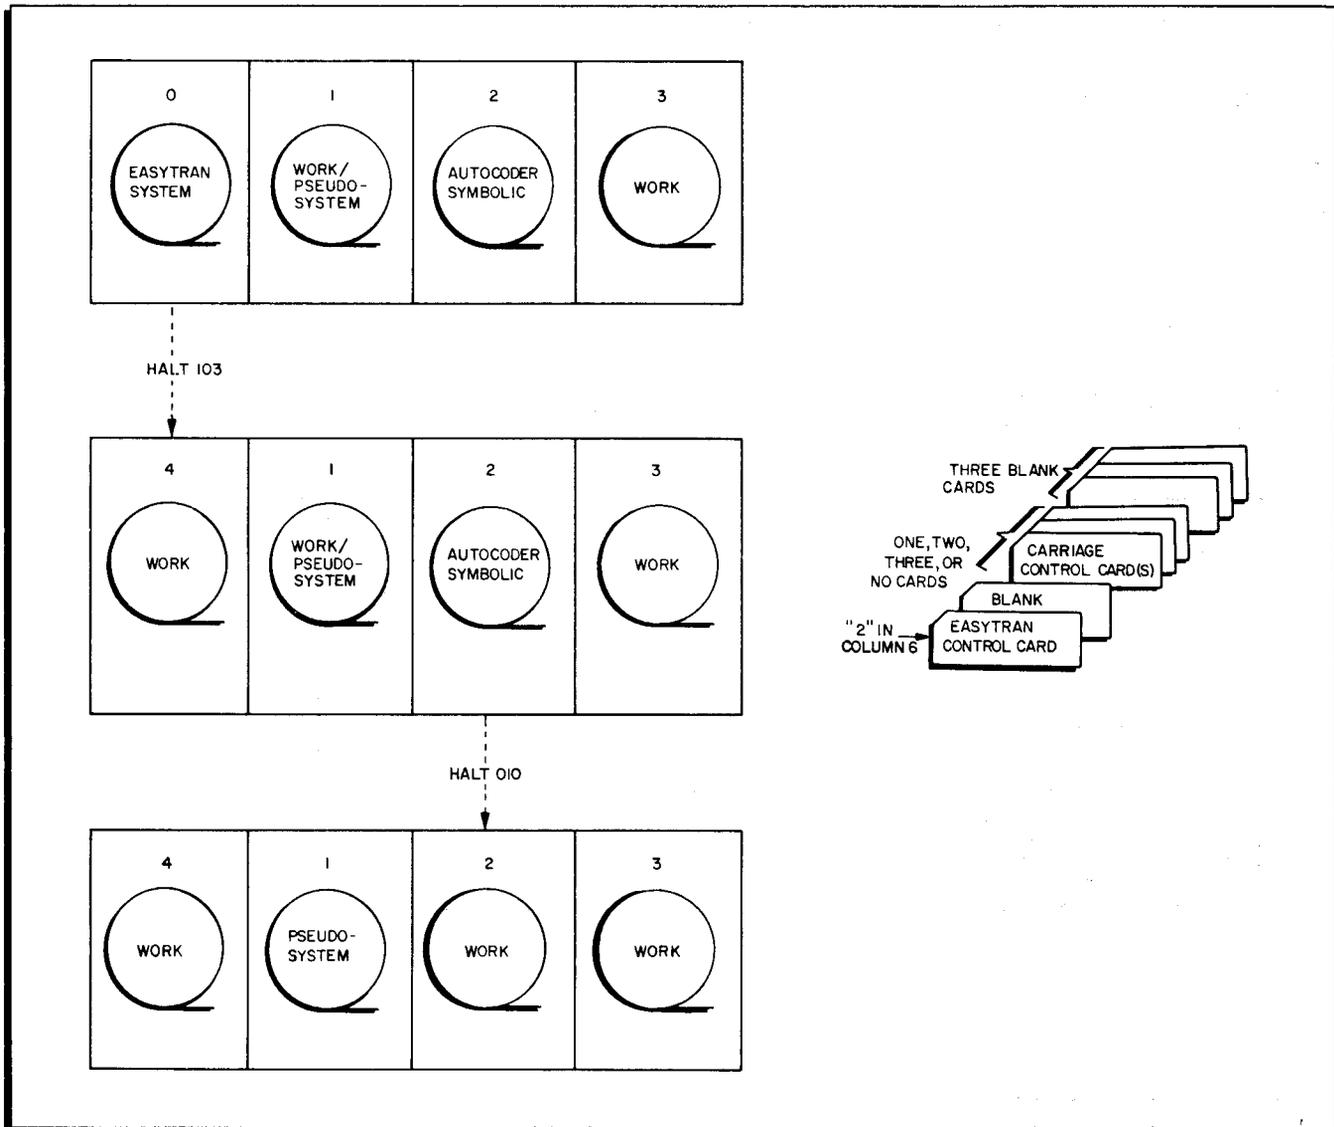

Figure 6. Four-Tape System — Tape Manipulation and Card Input for Autocoder Conversion from Tape
Four-Tape System: Autocoder Conversion from Tape (Figure 6)
1. Make up the Easytran load deck as shown in Figure 6; load the card reader.